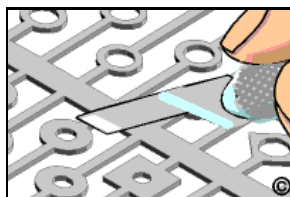

Figure 4: Cut out the new land. Cut from the plated side.
8. Cut out and trim the new land. Cut out from the plated side. Cut the length to provide the maximum allowable circuit overlap for soldering. Minimum 2 times the circuit width. (See Figure 4).